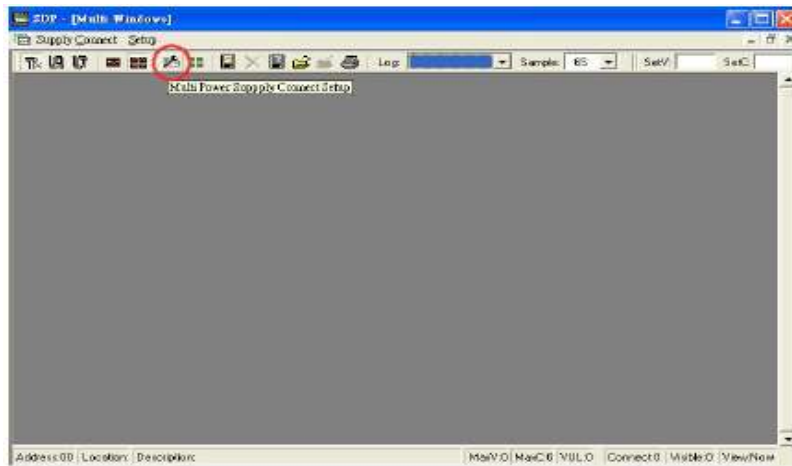
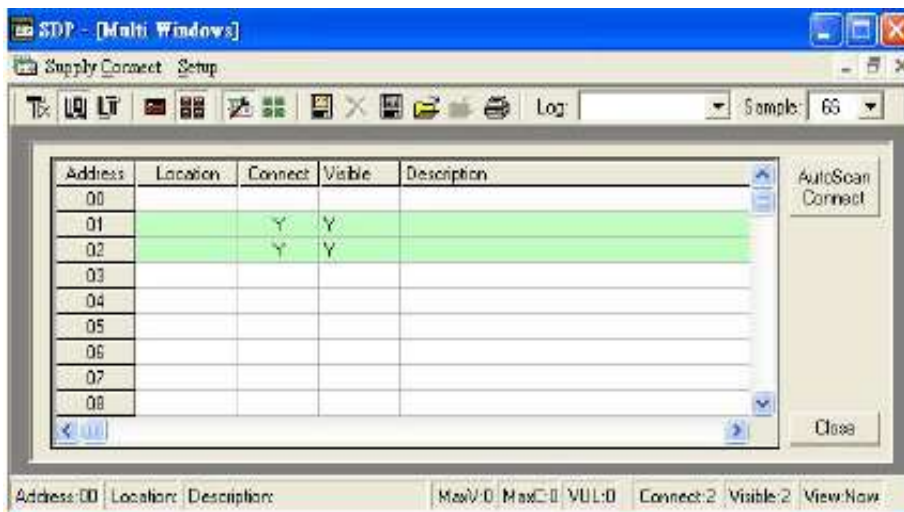

Figure 8.5.1a Multi Window
Figure 8.5.1b Multi Power Supply Connect Setup.
2. A **Multi Windows** Window (Figure 8.5.1a) will appear.
3. Click on the icon (circled in red in figure 8.5.1a), a **Multi Power Supply Connect Setup** (Figure 8.5.1b) will appear.
4. Click on **AutoScan Connect**, the window will show the connected power supply indicated as "Y" as shown in Figure 8.5.1b.